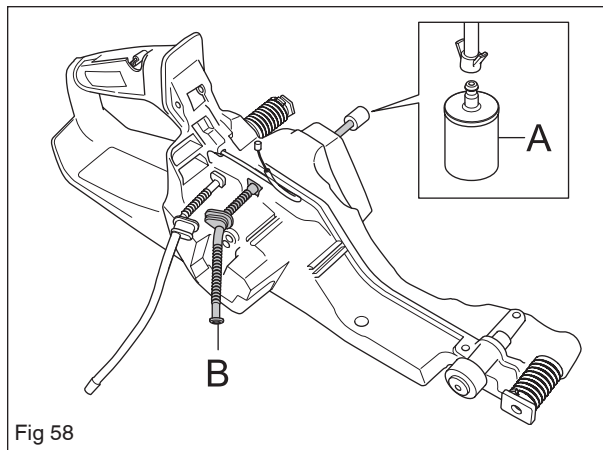

Fig 58
2. Pull out fuel hose B from the tank unit and pull away the filter A. See figure 58.
Use suitable pliers with a smooth cutting face and loosen the hose B from the fuel tank. See figure 58. Replace the return hose when required. Tighten the fuel hose on the filter side with your fingers.